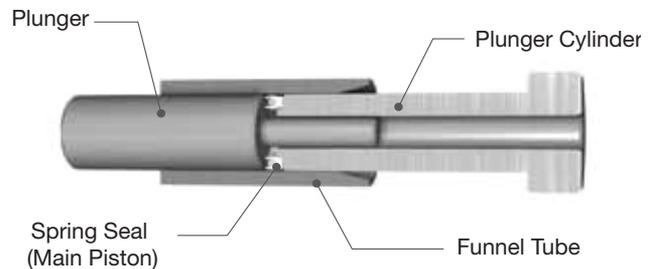

Figure 22: Funnel Tube
- (iv) Insert Funnel Tube, chamfer side first, over the Plunger and Spring Seal (Adjuster Top). Stop when Spring Seal (Adjuster Top) is about half way inside the Funnel Tube as shown in Figure 22.